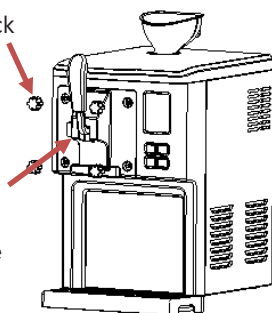
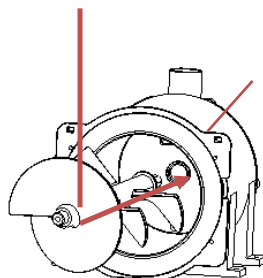
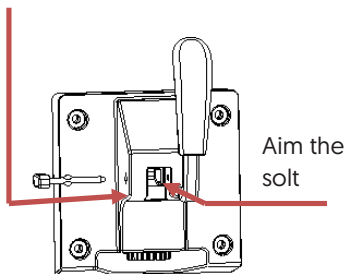

Figure 1
Figure 2
Figure 3
1. Loosen the four locking nuts counterclockwise and take out the handle assembly, as shown in Figure 1. Check whether the inwall of the barrel is clean, take out the mixing fan blade, wipe it with a wet cloth, and install the mixing blade after cleaning, as shown in Figure 2. Insert the handle and handle assembly, as shown in Figure 3. Tighten the nut clockwise, as shown in Figure 4.
- 2. After the water is drained, loosen the nut as shown in Figure 1, remove the handle components and clean the mixing blade separately.
- 1. Insert ③ into ② as shown in Figure 1.
- 2. Push ③ into ② by hand, as shown in Figure 2.
- 3. Push ① into ② and then upward, and hear a "click" sound, as shown in Figure 3.